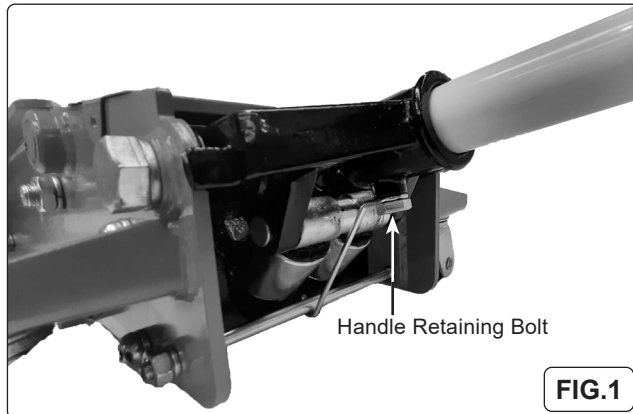

FIG.1
- 4.1. RELEASING THE RETAINING CLIP (FIG.1)**